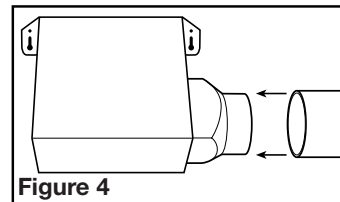

Figure 4
- Connect the ducting to the fan's duct collar (Figure 4). Secure in place using tape or screw clamp. Always duct the fan to the outside through a wall or roof cap.